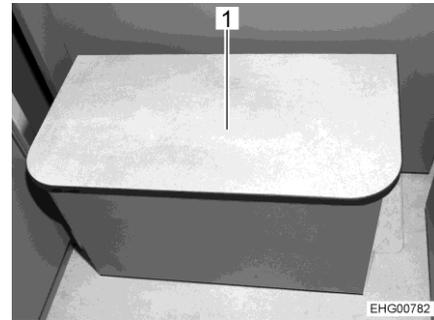

Fig. 67 Access assistance
- Raise and fold in the access tread (Fig. 67,1).